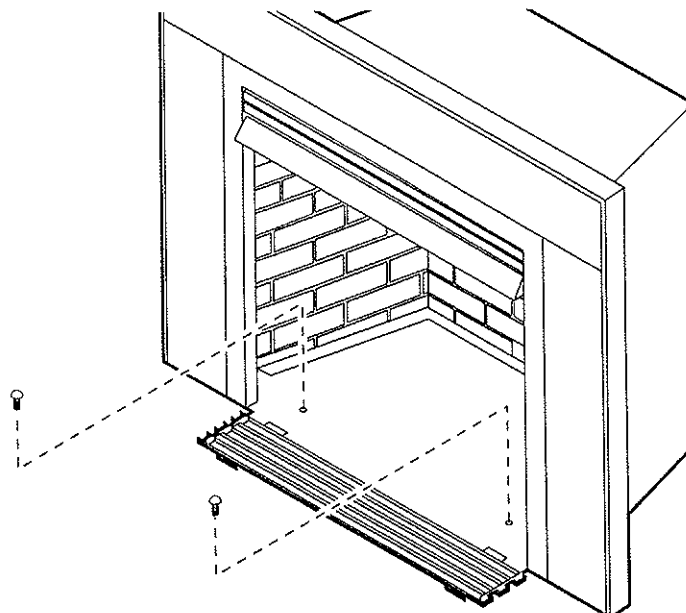

FIGURE 11. Securing Heater to Floor or Hearth
- Secure the firebox with two anchoring screws (3/16" x 1 1/4" length) supplied with the fireplace system (see *FIGURE 11*).